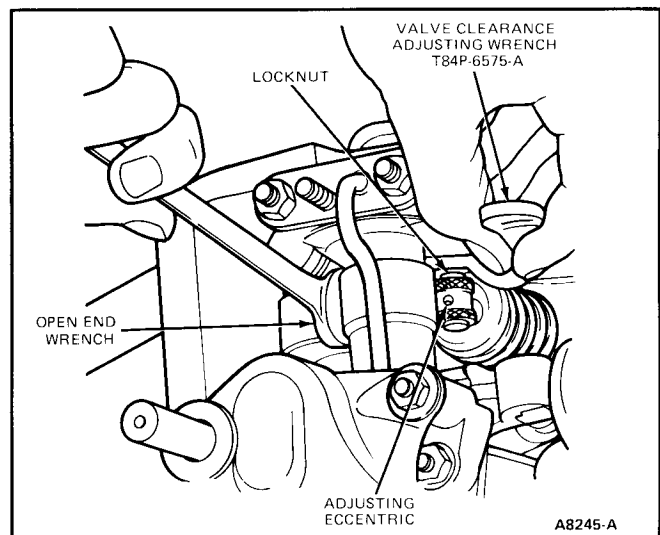

FIG. 8 Eccentric Locknut Adjustment
3. Loosen adjusting eccentric locknut using valve clearance adjusting Wrench, Tool T84P-6575-A, or equivalent and a 12mm open end wrench (Fig. 8).